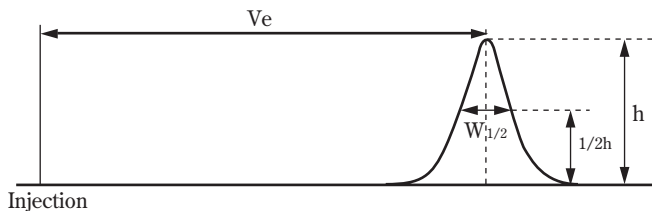

Fig. 3
The number of theoretical plates of a column (N) is calculated by the half peakwidth method shown in Fig. 3 and the following equation.